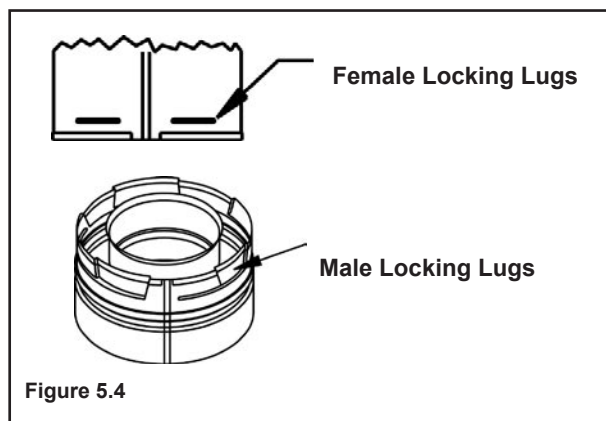

Figure 5.4
**Note:** Direct vent pipe is designed to slide straight onto the male ends of adjacent pipes and fittings by orienting the four pipe indentations on the female ends so they match and slide into the four entry slots on the male ends, see **Fig. 5.4**. Push the pipe sections completely together, then twist-lock one section clockwise approximately one-quarter turn, until the two sections are fully locked. The female locking lugs will not be visible from the outside, on the pipe or fittings. They may be located by examining the inside of the female ends.